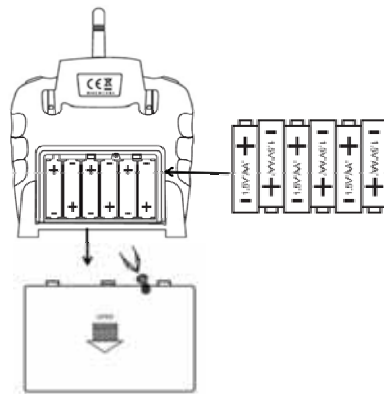
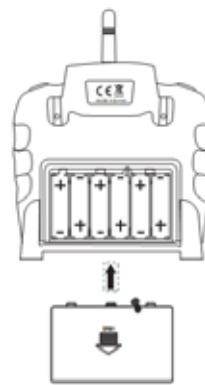

Fig. 1
Fig. 2
2. Press the tab on the battery door then lift it up as the Fig. 1 below.
3. Install six (6) AA size batteries into the battery compartment as the polarity marking inside.(For longest playing time, Alkaline batteries are recommended.)
4. Close the battery door as the Fig. 2 below and secure the screw on it.